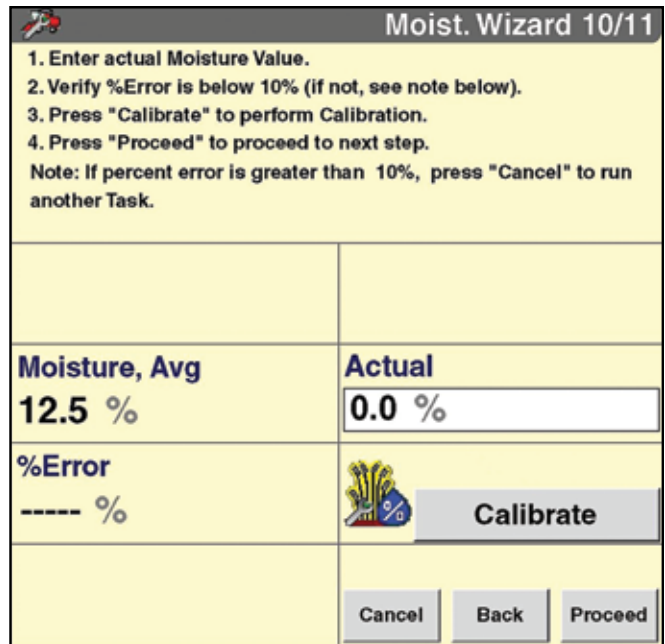

Figure 18.1
- Actual moisture values entered, percent error relative to sensed moisture calculated for each load (see figure 18.1)
- Actual weight entered, percent error relative to sensed weight calculated for each load (see figure 18.1*)
* Yield Wizard screens closely resemble Moisture Wizard screens in figures 18.1 and 18.2.